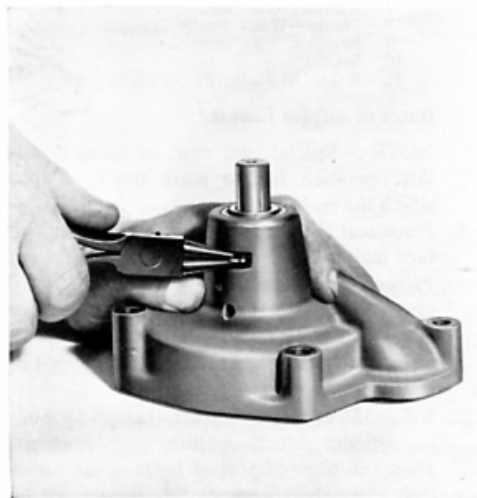

Fig. P.5. Removing Shaft Locating Circlip.
3. Remove drive shaft locating clip (early engines) see Fig. P.5, and press shaft out of pump body from pulley end complete with water pump thrower, insert, seal and impeller.